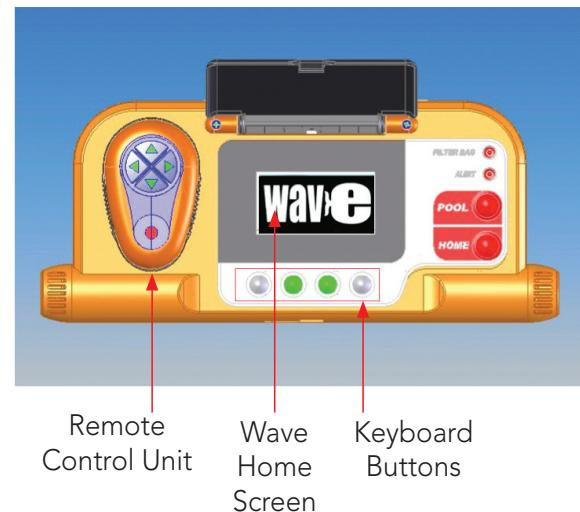

Figure 2: The Dolphin Wave robot MMI console
- In this user manual, the instruction press "**Start**" is performed by pressing both green buttons -  - simultaneously on the MMI console (Figure 2).